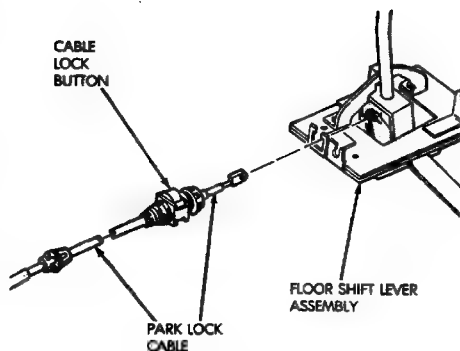

Fig. 48 Park Lock Cable
- (1) Shift transmission into Park.
- (2) Turn ignition switch to Lock position.
- (3) Remove shift lever bezel and console screws. Raise bezel and console for access to cable.
- (4) Pull cable lock button up to release cable (Fig. 48).
- (5) Pull cable forward. Then release cable and press cable lock button down until it snaps in place.
- (6) Check adjustment as follows: